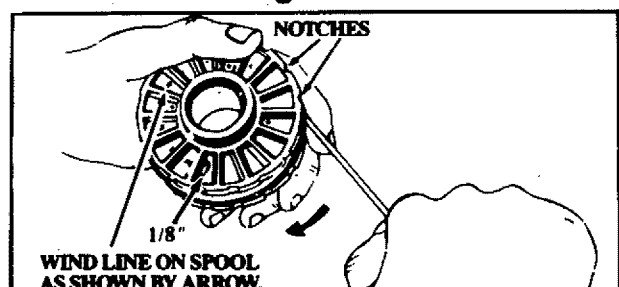

Figure 25
- c. Insert 1/16" to 1/8" of the end of the Line through one of the holes in the rim of the Spool. Allow no more than 1/8" line extend beyond the rim to avoid interference with line release action. Figure 25.
- d. Wind the Line onto the Spool in the direction as shown by the arrow on the Spool and as tightly and evenly as possible so the line will feed properly. Figure 25.